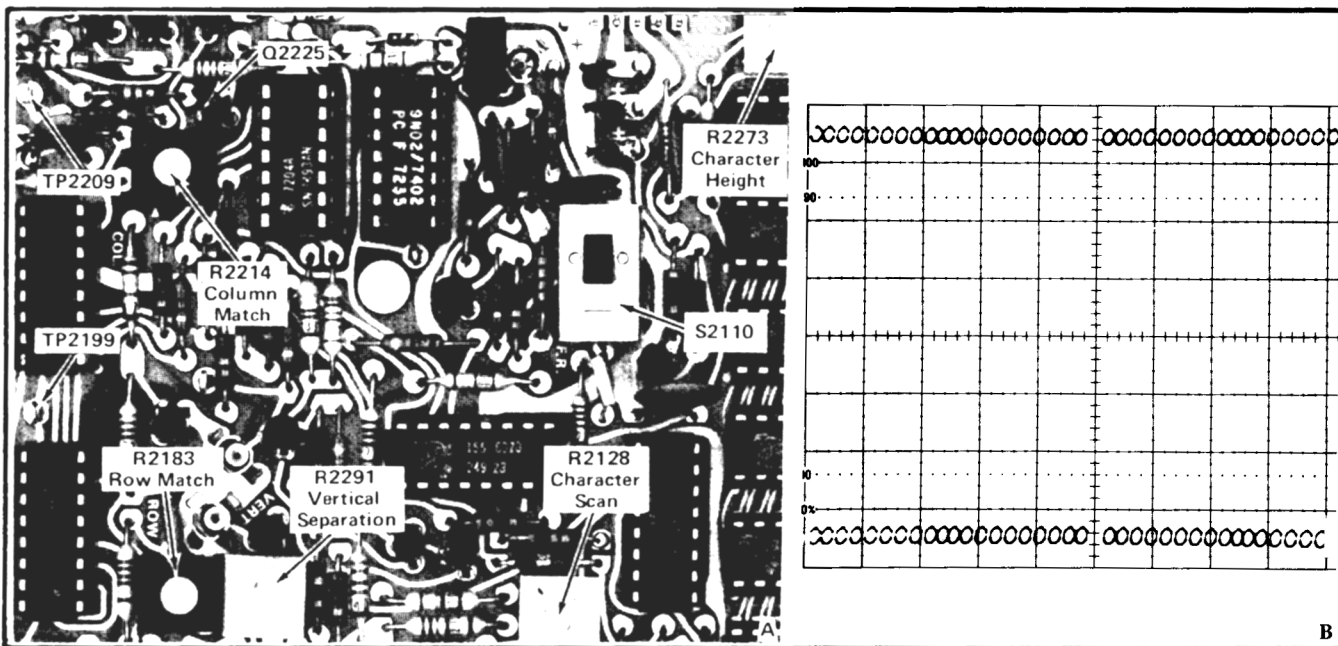

Fig. 2-10. (A) Location of Readout Adjustments, Q2225 and Test Point 2199 and 2209, (B) Readout Display.
- l. Set the Readout Mode switch, S2110 to Free Run-Remote. See Fig. 2-10.